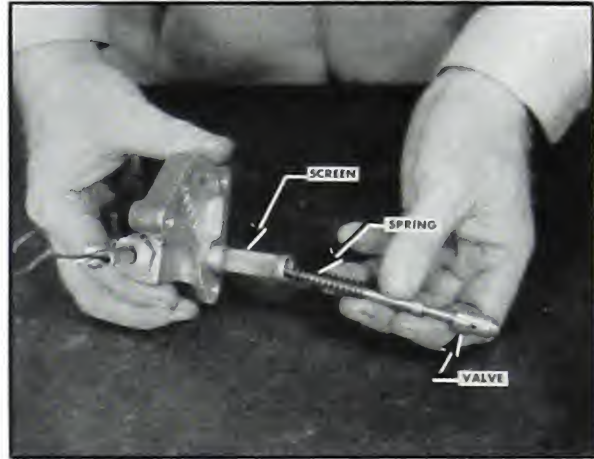

Fig. 5-245. Replace valve and spring
6. Insert the valve and spring assembly. Fig. 5-245. Hold up the plunger to permit the valve stem to pass.